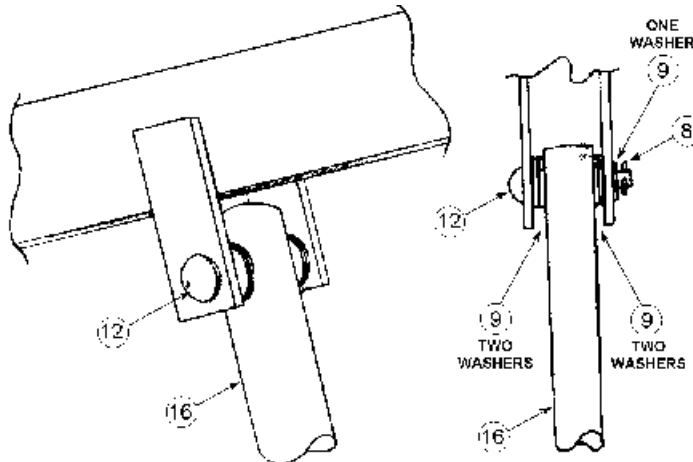

FIGURE 4
Step #5: Next, connect the cylinder (item 16) to the overhead assembly: Align ram eye with holes in boom clevis plates and insert a greased clevis pin (item 12) with four 5/8" washers (item 9). Place another washer (item 9) on outer end of clevis pin and drive a 3/16" roll pin (item 8) into the hole at the end of clevis pin. See figure 4.